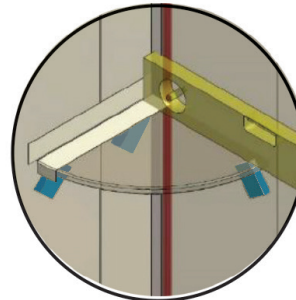

FIG 27.
- Place the shelf in position to confirm that it is level. If required, adjust the stabiliser blocks to suit. Optional - apply insulation/gaffa tape to shelf/wall to prevent bleeding of the adhesive onto the wall or shelf.(**FIG 27**).